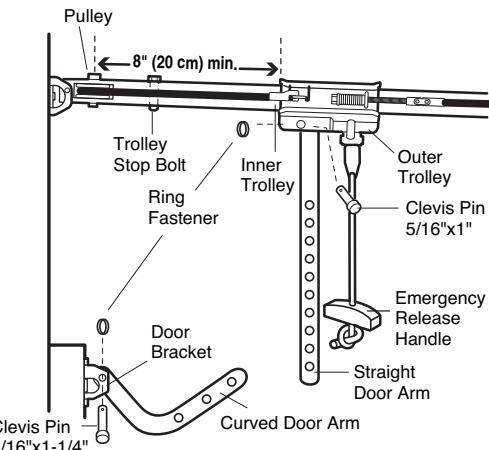

Figure 1
- Make sure garage door is fully closed. Pull the emergency release handle to disconnect the outer trolley from the inner trolley. Slide the outer trolley back (away from the pulley) about 8" (20 cm) as shown in Figures 1, 2 and 3.
- Figure 1:**